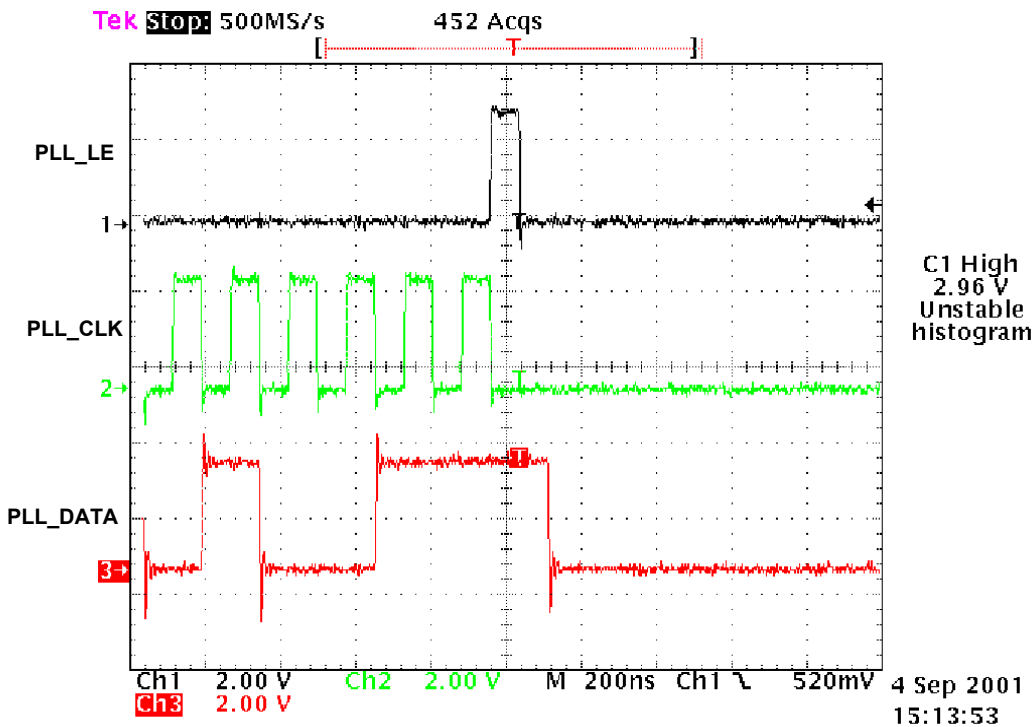

Figure 3-18. PLL_LE, PLL_CLK, PLL_DATA.
5. PLL_CLK, PLL_DATA, PLL_LE (see Fig. 3-18)
(Refer to Figure 3-18)